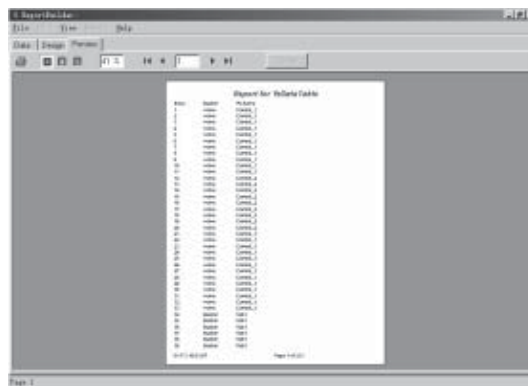

Fig. 8-17 Preview the Report
4. Preview the Report: Select and click the page key ;°Preview;±as in Fig. 8-16. And the diagram as in Fig. 8-17 will be displayed.